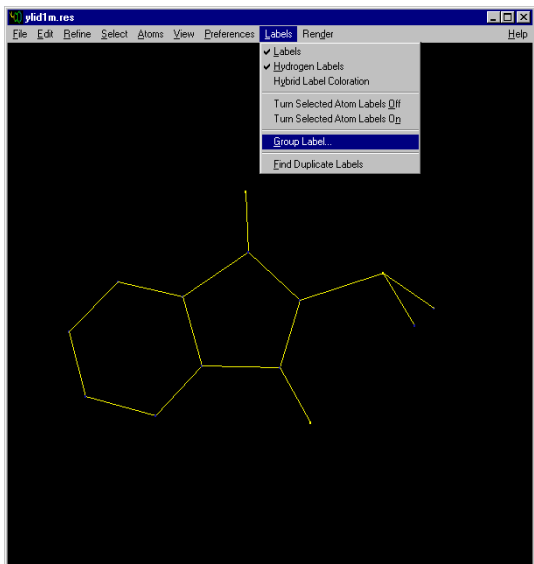

Figure 6-22. Select Group Labels
25. Click Labels > Group Label (Figure 6-22).